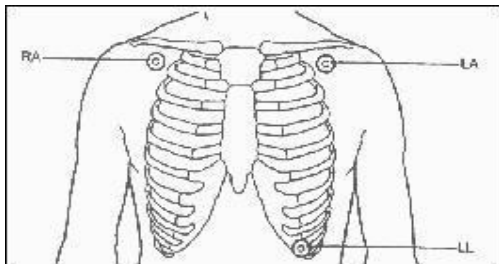

Figure 5-1 ECG 3-lead electrode placement
2. Place the electrodes on the patient body. If the electrodes are not self-supplied electrolyte, apply some conductive gel on the site (figures 5-1 and 5-2)
Electrode placement for 3-lead set (figure 5-1)